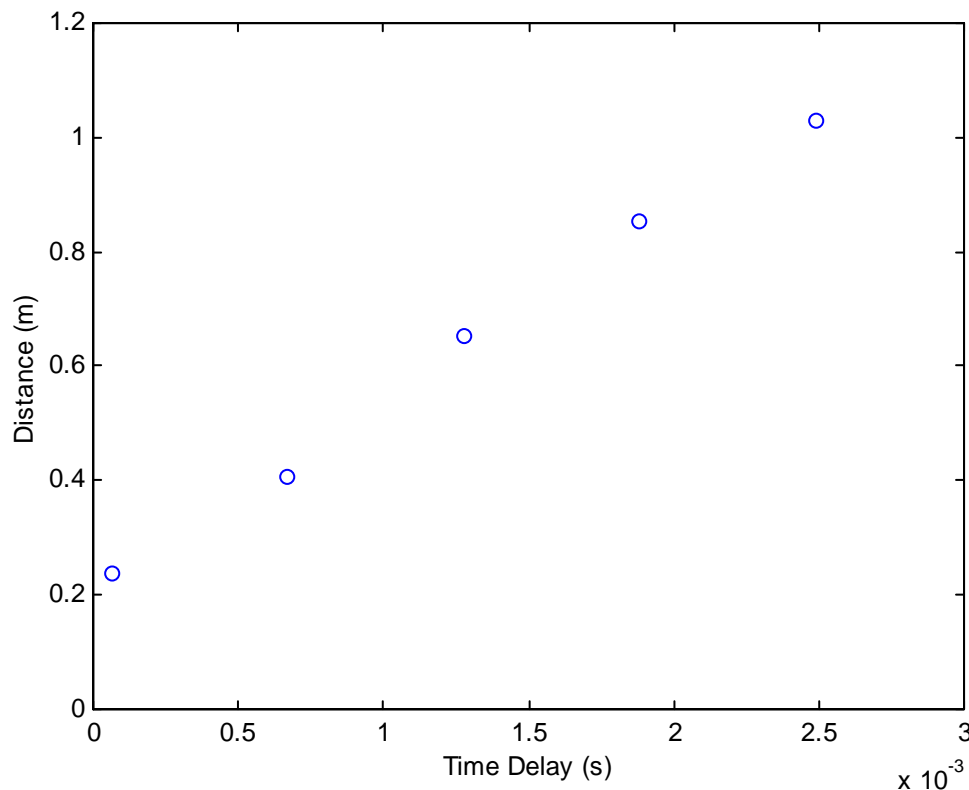

Figure 3: Distance vs. Time Delay for ultrasound propagation.
3. When you have 5-10 different distance/time-delay pairs, do an Excel “Scatter Plot” of the Distance vs. Time Delay. You should get an approximate straight line plot like Figure 3 below. If not, check your data points to see if there is some error.
Q6: What is the x in the graph of Figure 3? What is y ? What are m and b called? What does m represent physically? What does b represent physically? In Figure 3 estimate the values of m and b .